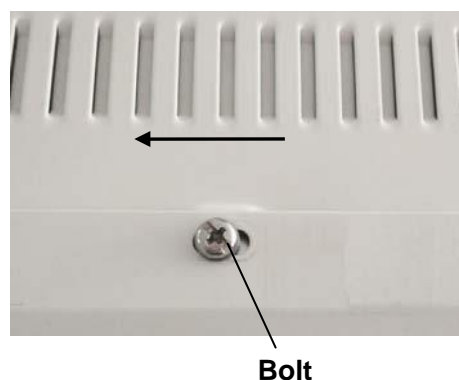

FIGURE 2.6.2
② In figure 2.6.2, aim the three holes on the phototherapy unit at the three holes on the top of the warmer module and tighten the bolts with a screwdriver.